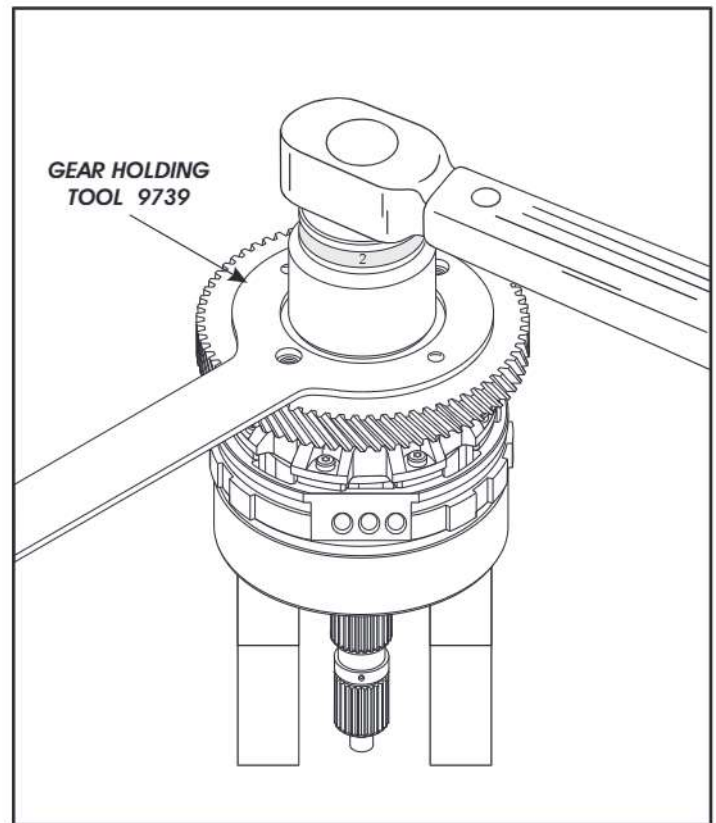

Figure 159
11. Torque the nut to 271 N·m (200 ft.lb.) using the gear holder 9739, as shown in Figure 159.